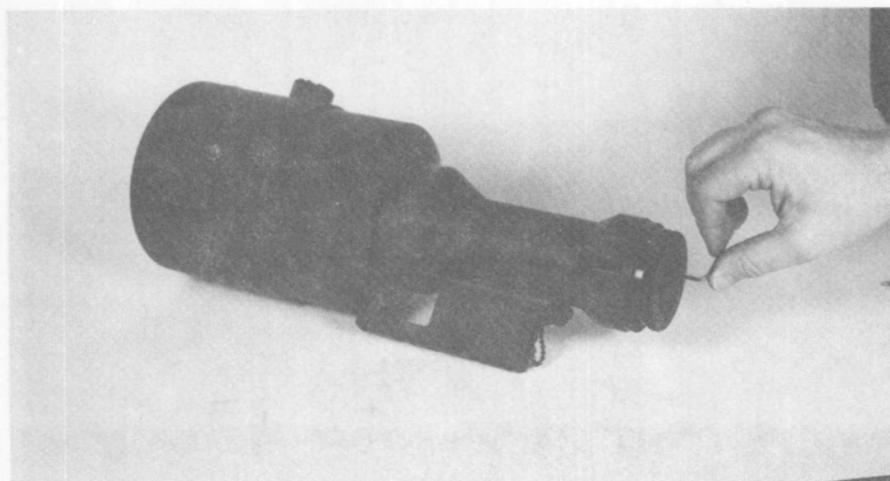

FIGURE 6.6 INSTALLATION OF COUPLING RING
b. **Right Angle Adapter.** This optical adapter is required for using the sight on the M40 Recoilless Rifle. To install the right angle adapter, remove the standard eyepiece in accordance with para. 5.2 and attach it to the right angle adapter. Attach the threaded coupling ring to the scope and install the adapter as shown in figures 6.6 and 6.7.